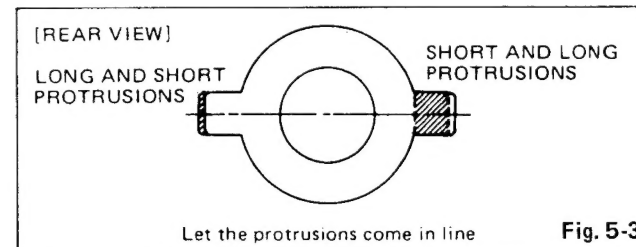

Fig. 5-3
2. Let the purity tabs come in line horizontally as is shown in Fig. 5-3. A long tab should be in the same direction as the other short tab.